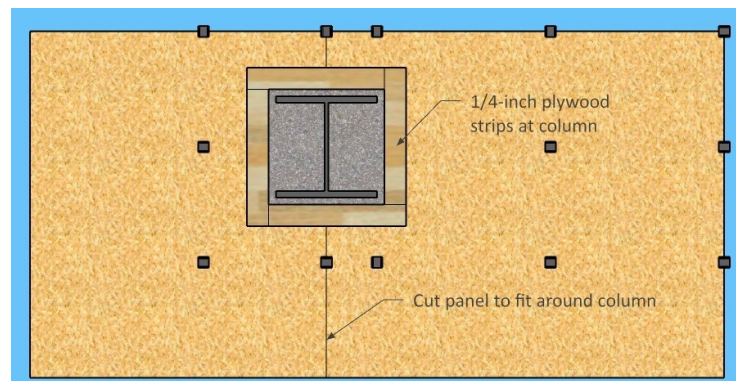

Figure 2: Typical Inverted Plan with Column Cutout
- Fig. 2: Typical pad layout for column opening at concrete floors. Column location can be anywhere in the panel. Adjust pads accordingly for support.